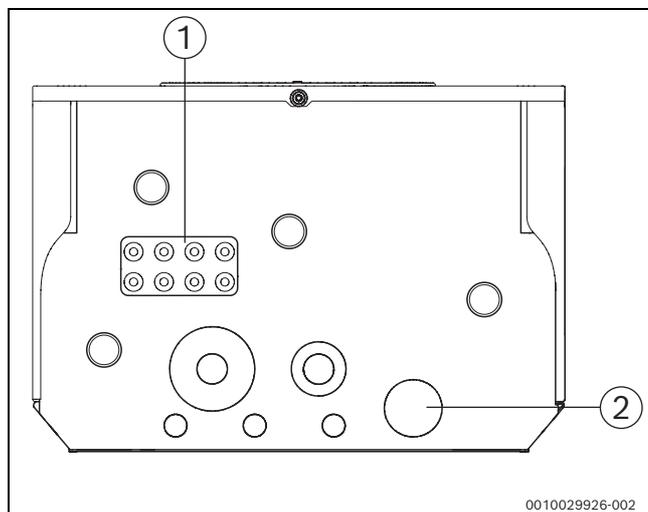

Fig. 29 Cable feeds
- ▶ Route the control cable of type H05V2V2 F, 2x0.75 mm² [4] from the external booster heater through a free cable feed in the bottom panel (→ Fig. 29) to terminal [2].